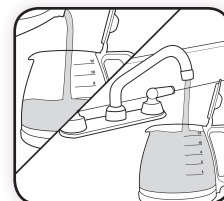

Figure 30
- Fill the carafe with a solution of equal parts water and vinegar and let the solution stand in the carafe for approximately 20 minutes. (Figure 30)